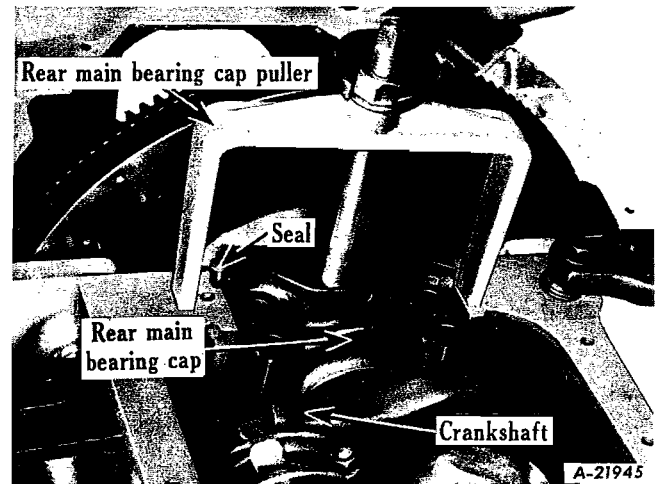

Fig. 29 - Use SE-1719 Bearing cap puller to remove rear main bearing cap.
5. The crankshaft bearing caps are numbered to identify their position and they must be reinstalled in their respective positions. Remove self-locking capscrews from each bearing cap. Remove all crankshaft main bearing caps. NOTE: To remove the rear, or No. 4, main bearing cap, a puller is required (Fig. 29). After all caps have been removed, lift crankshaft straight up and out of cylinder block, and place in a vise equipped with soft jaws.